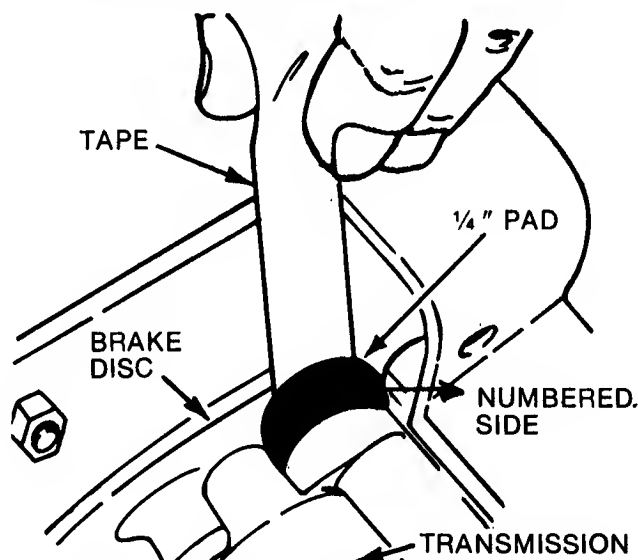

FIG. 3.3--BRAKE DISC INSTALLATION
5. Apply a small amount of non-hardening adhesive to the numbered side of the 1/4 inch pad from kit to secure the pad in the transmission. Use a strip of duct tape about 12 inches long to suspend the new 1/4 inch pad behind the disc and position the pad into the recess in the transmission case (Figure 3.3). Push the disc in toward the transmission to hold the pad in position then remove the tape. Inspect to make sure there is not tape left on the pad that will interfere with later adjustments.